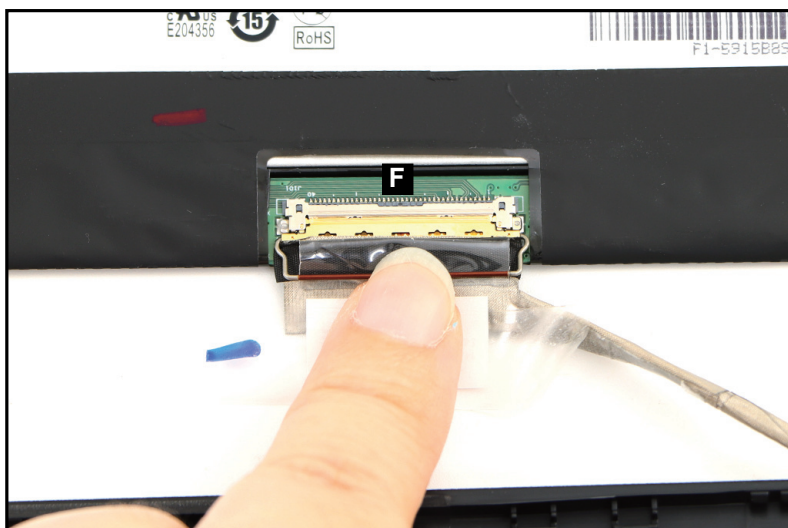

Figure 1-53. LCD Panel Removal
5. Disconnect the eDP cable from the LCD panel connector (F) (Figure 1-53). Then remove the LCD panel.